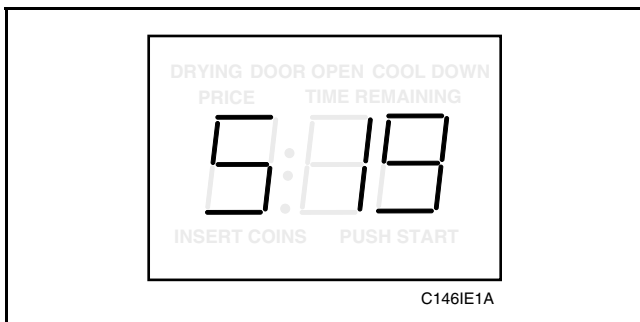

Figure 40
- While pressing and holding the HIGH TEMP pad with one hand, press the MED TEMP pad with the other hand. Programmable option number 1, (Audio Signal “SIg”), will appear in the VFD, *Figure 40*.